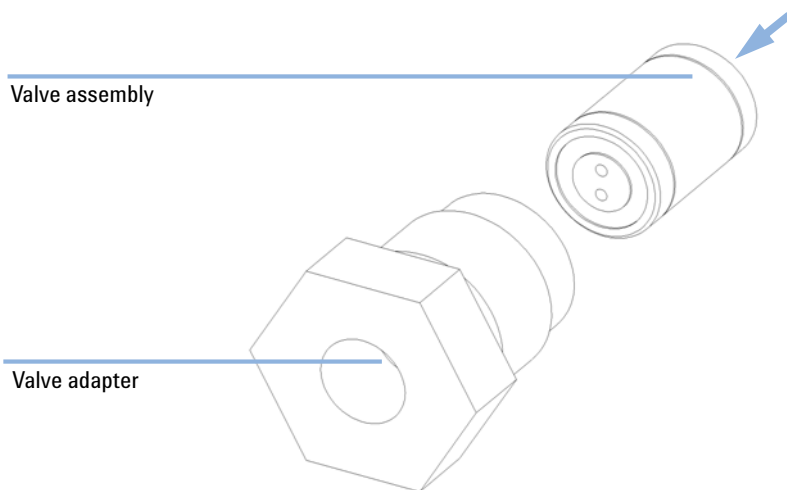

Figure 25 Ball Valve Parts
- 2 Insert a new valve assembly into the valve adapter. The arrow on Figure 25 on page 117 indicates the flow direction. Make sure the valve assembly is fully inserted into the valve adapter.